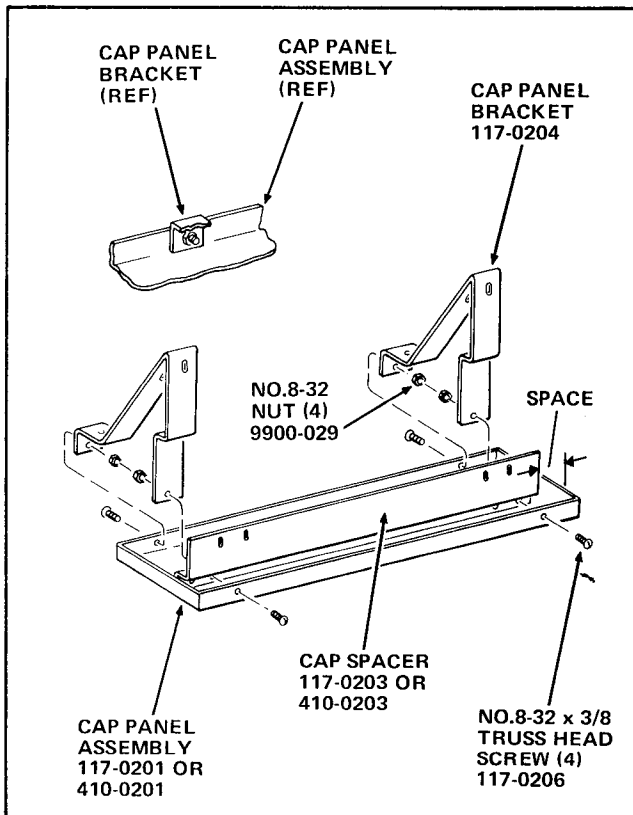

FIGURE 1
2. Place a No.8-32 x 3/8" Truss Head Screw, part number 117-0206, in each of the 2 holes in the long size of the Cap Panel Assembly that is toward you. See Figure 1.
2. Place a No.8-32 x 3/8" Truss Head Screw, part number 117-0206, in each of the 2 holes in the long side of the Cap Panel Assembly that is toward you. See Figure 1.
4. Place a Cap Panel Bracket, part number 117-0204, on each of the screws. The step in the base of the Cap Panel Bracket causes the base of the Spacer and Bracket to be even. See Figure 1.
4. Place a Cap Panel Bracket, part number 117-0204, on each of the Screws. The step in the base of the Cap Panel Bracket causes the base of the Spacer and Bracket to be even. See Figure 1.
1. Lay the Cap Panel Assembly, part number 410-0201 face down on a flat surface with one of the long sides toward you. See Figure 1.